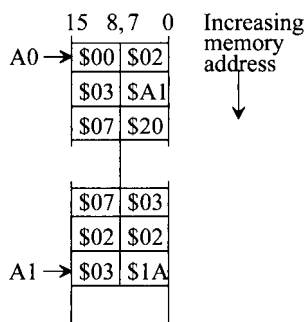

FIGURE P6.16
- 6.16 Write a 68000 assembly program to add two 48-bit data items in memory as shown in Figure P6.16. Store the result pointed to by A1. The operation is given by